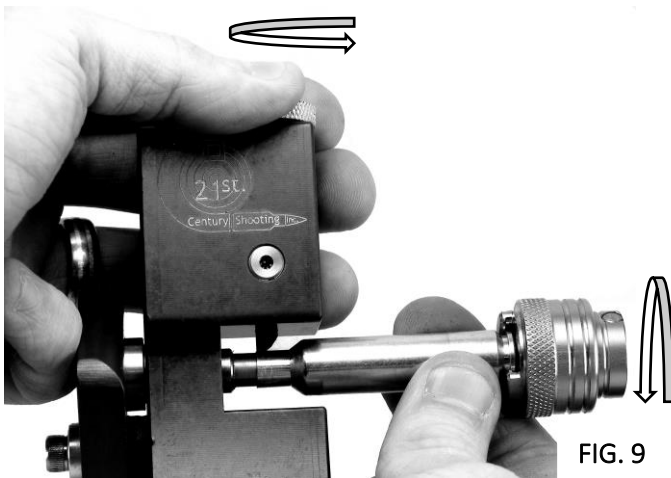

FIG. 9
3. Using your left hand, rotate the cutting depth adjustment dial clockwise until the cutting edge begins to contact the case and you feel resistance in the hand rotating the lathe (see FIG. 9).